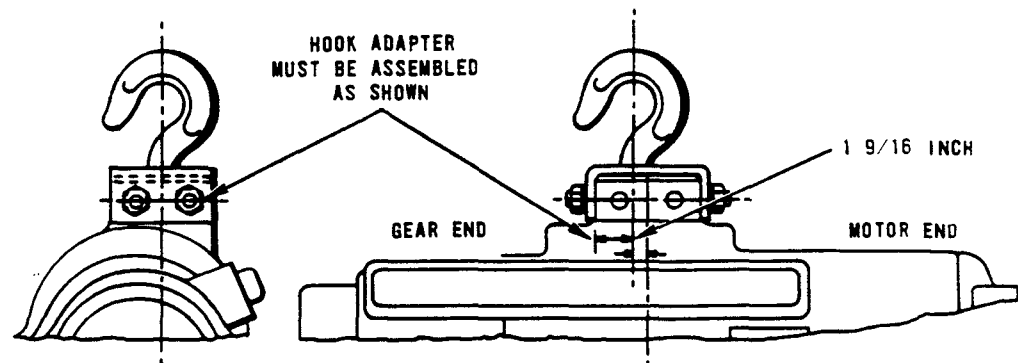

FIGURE 11.
- (a) The hook adapter can be removed by detaching the two (2) double end studs that pass through the adapter and the hoist frame lugs. Be sure hoist is properly supported to avoid dropping. See Figure 11 for hook adapter mounting.